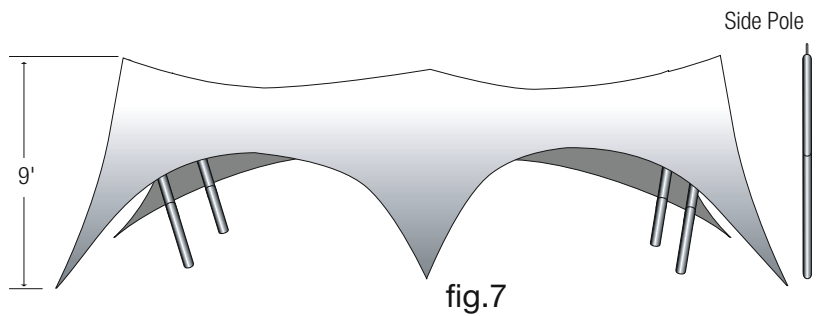

fig.7
10. Assemble the shock-corded corner/side poles. Lift the canopy, and from the underside, insert a pole tip into each corner grommet. Raise the poles with a slight bottom angle toward the center of the tent. Push the poles out until the canopy is taut. See fig.7
10. Assemble the shockcorded corner/side poles. Starting at the corners, lift the canopy, and from the underside, insert a pole tip into each corner grommet. Raise the poles with a slight bottom angle toward the center of the tent. Push the poles out until the canopy is taut. Repeat with the side poles. See fig.7